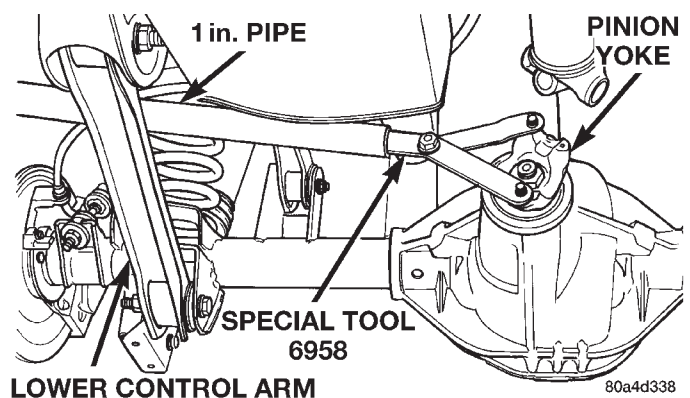

Fig. 44 Pinion Yoke Holder
- (1) Remove differential from the axle housing.
- (2) Mark pinion yoke and propeller shaft for installation alignment.
- (3) Disconnect propeller shaft from pinion yoke. Using suitable wire, tie propeller shaft to underbody.
- (4) Using Holder 6958 to hold yoke and a short length of 1 in. pipe, remove the pinion yoke nut and washer (Fig. 44).